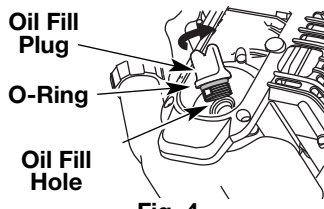

Fig. 4
3. Remove the oil fill plug from the crankcase (Fig. 4).